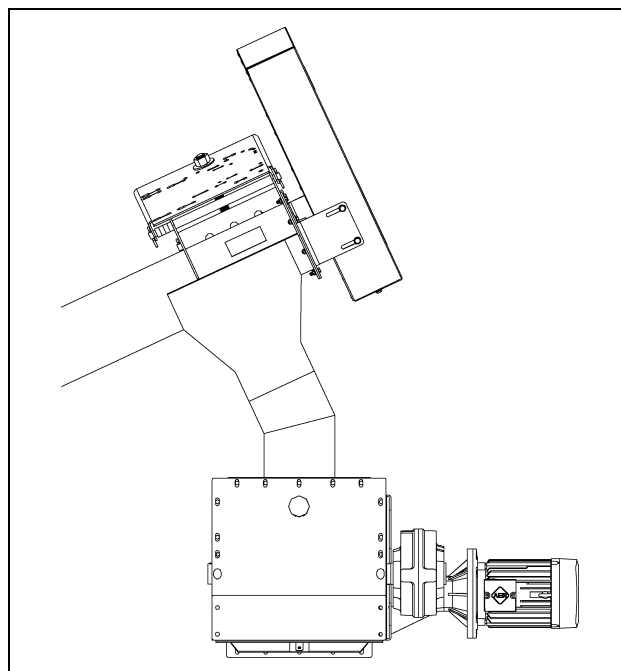

Figure 2C
d. A shorter tube may be used only where the tube is directly connected to other handling equipment. (See Figure 2C.)